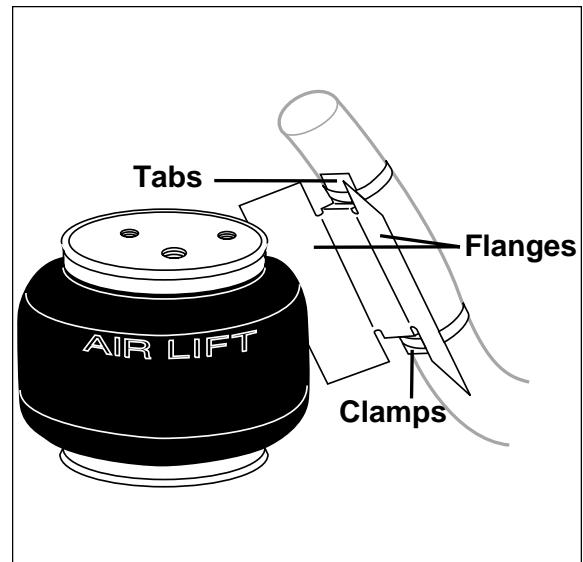

Figure 5
- Installation of this kit requires an exhaust heat shield (Figure 5). The shield is attached with stainless steel clamps to the exhaust pipe, with the flanges being bent inward. Shield may be trimmed or bent to attain component clearance. Bend tabs to provide 1/2" dead air space between exhaust pipes and heat shield and maximum clearance with air springs.